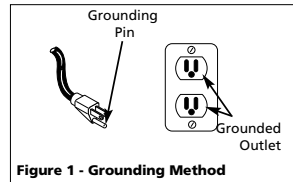

Figure 1 - Grounding Method
- This product is for use on a nominal 120 volt circuit and has a grounding plug that looks like the plug illustrated in Fig. 1. Make sure the product is connected to an outlet having the same configuration as the plug. This product must be grounded. In the event of an electrical short circuit, grounding reduces risk of electrical shock by providing an escape wire for electric current. This product is equipped with a cord having a grounding wire with an appropriate grounding plug. Plug must be plugged into an outlet that is properly installed and grounded in accordance with all local codes and ordinances.